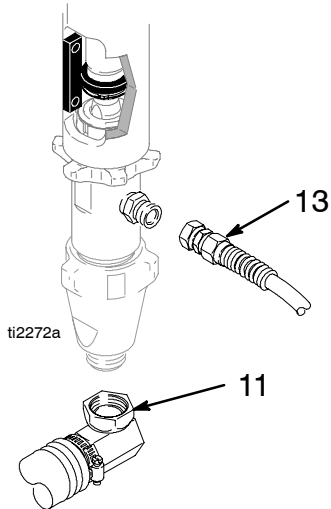

Fig. 11
3. Fig. 11 - 13. Remove pump.
4. Fig. 11. Remove suction tube (11) and hose (13).